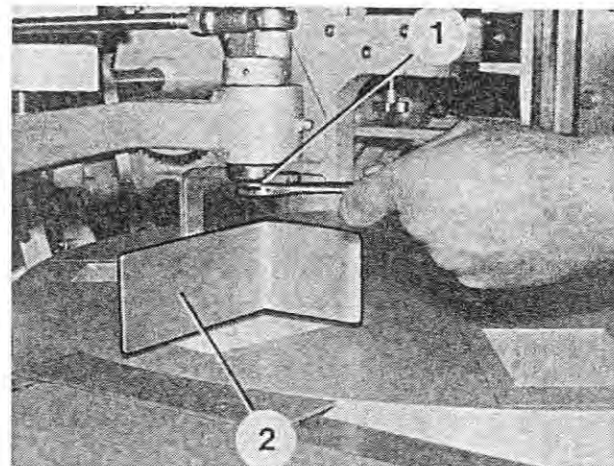

Fig. 153
16. Unscrew the locking screw (Figure 153/1) of the pusher plate (Figure 153/2) and remove the pusher plate.